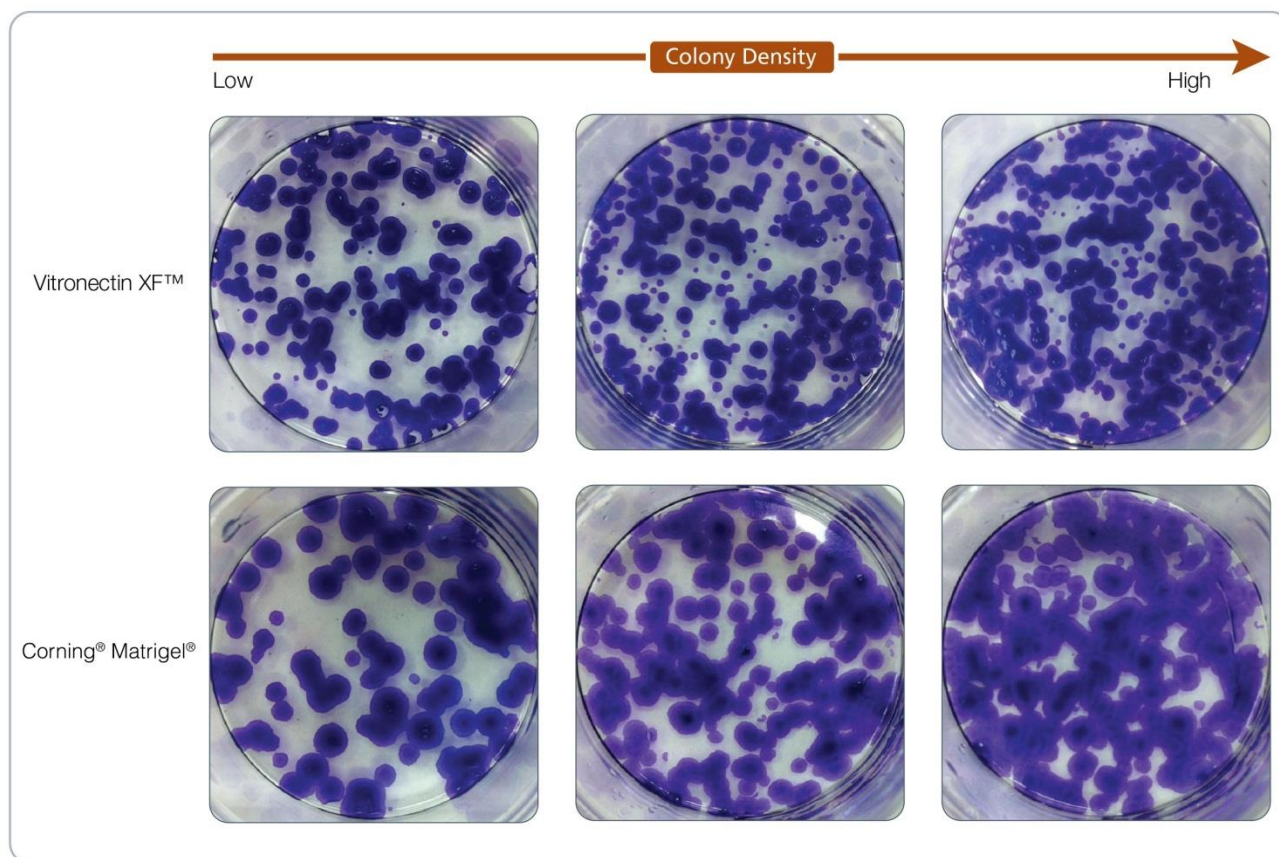

Figure 13. Example Colony Densities for Cultures Grown on Either Vitronectin XF™ or Corning® Matrigel® in TeSR™-E8™
**For representative images see Figure 13.
The number of cell aggregates plated at the time of passaging is correlated to the colony density observed at the next time of passaging. By altering the split ratios at the time of plating you can increase or decrease the colony density as desired. For example, a lower split ratio at the time of plating (i.e. plating more cell aggregates) will result in a higher colony density at the next passaging time. Typical split ratios are 1 in 10 to 1 in 50; however, this can vary depending on the cell line used and the individual operator. Refer to Figure 13 for a recommended range of colony densities that should be observed at the time of passage. Some cell lines may show increased spontaneous differentiation when cultured at higher densities; if increased differentiation is observed, the colony density may be decreased in the next passage by plating fewer cell aggregates. Counting cell aggregates is an alternate way to determine and adjust plating densities (see Appendix 1).